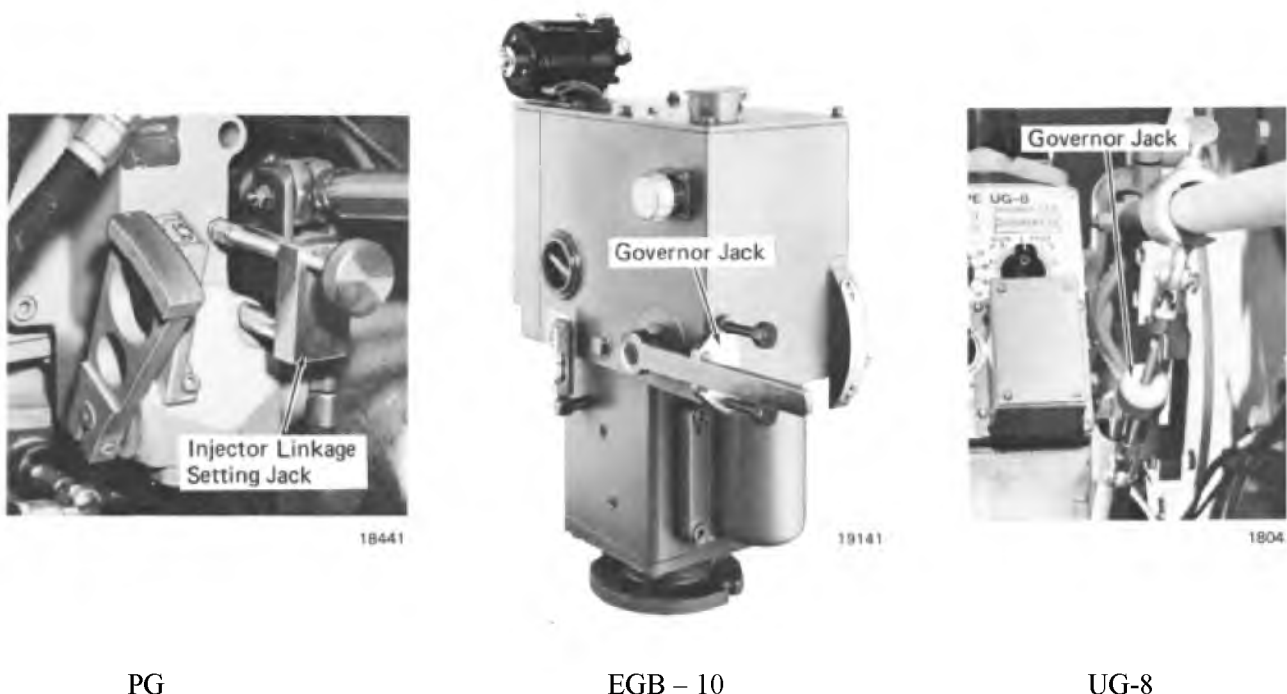

Fig. 15-11 - Injector Rack Positioning
1. Install the applicable injector linkage setting jack, Fig. 15-11.